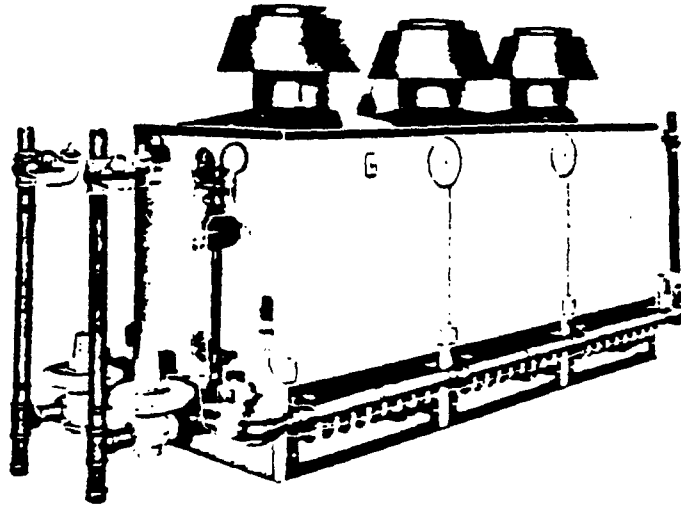

FIG. 18—Jacket Assembly; 3 combustion chamber boiler shown. 4 combustion chamber boiler jacket includes 2 center panel installations.
5. For 13 to 41 Sections—Attach individual panels together with washer head screws for making up complete front or rear panels. Refer to Figs. 18 and 19. Place key strips between front and rear burner access door frames and attach with washer head screws.